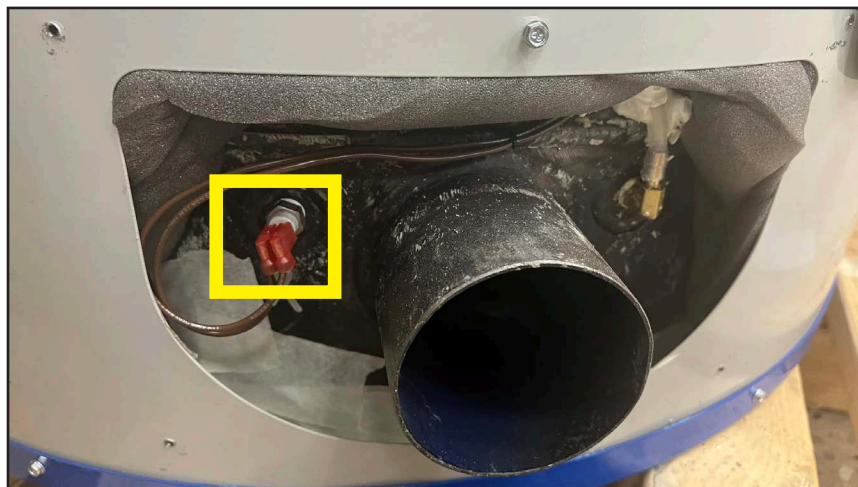

Fig. 24
5. Check continuity of wire harness to sensor (Fig. 24). Resistance of harness should be close to 0 ohms.